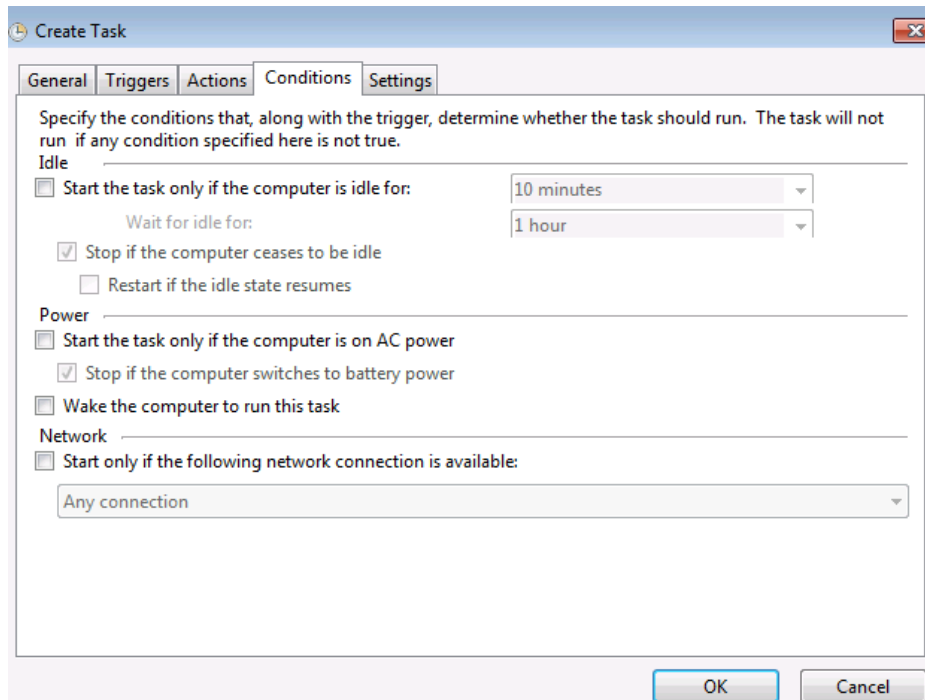

Fig. C.30: New Conditions configuration
STEP 6 – In *Create Task* window please select *Tab Conditions* and disable all the options (Fig. C.30).